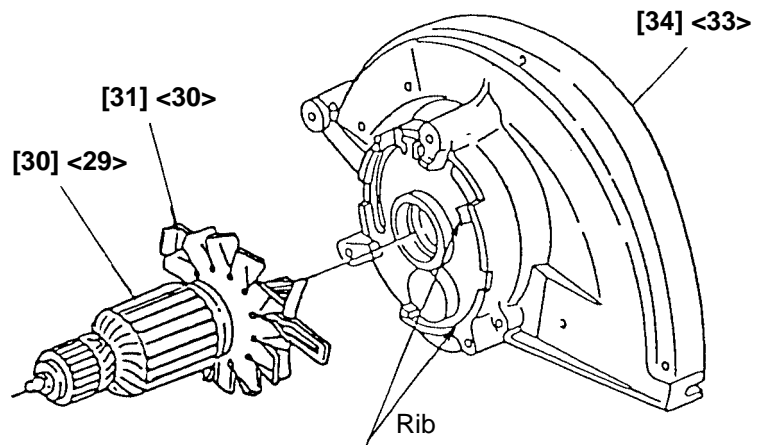

Fig. 2
(3) Reassemble the Lock Lever [31] <30> (See Fig. 2.)